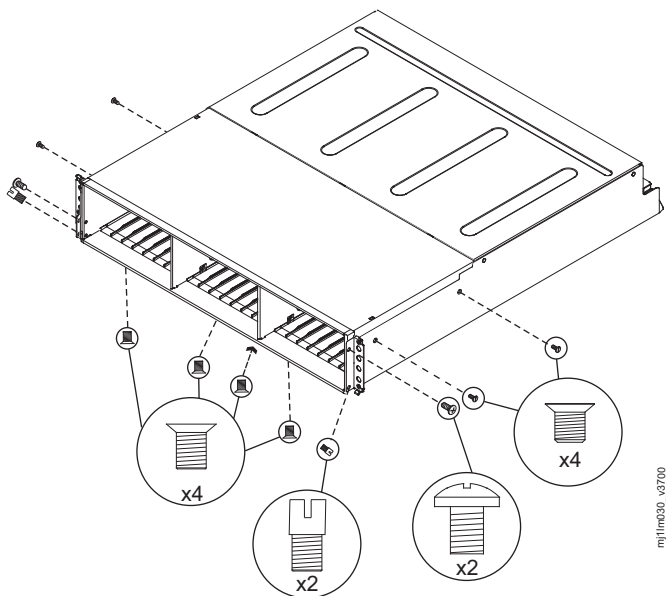

Figure 110. Removing the screws of an expansion enclosure assembly
12. Remove the four screws from the bottom of the enclosure (see Figure 110 on page 362). Remove the three screws that are near the front and the screw that is near the middle. Label these screws to indicate the location from which they are removed and place them aside.
14. Remove the three screws and one screw-pin on the right side that secure the midplane assembly to the enclosure (see Figure 110). Label the screws to indicate the location from which they are removed and place them aside.
15. Remove the three screws and one screw-pin on the left side that secure the midplane assembly to the enclosure (see Figure 110). Label the screws to indicate the location from which they are removed and place them aside. See Figure 4.